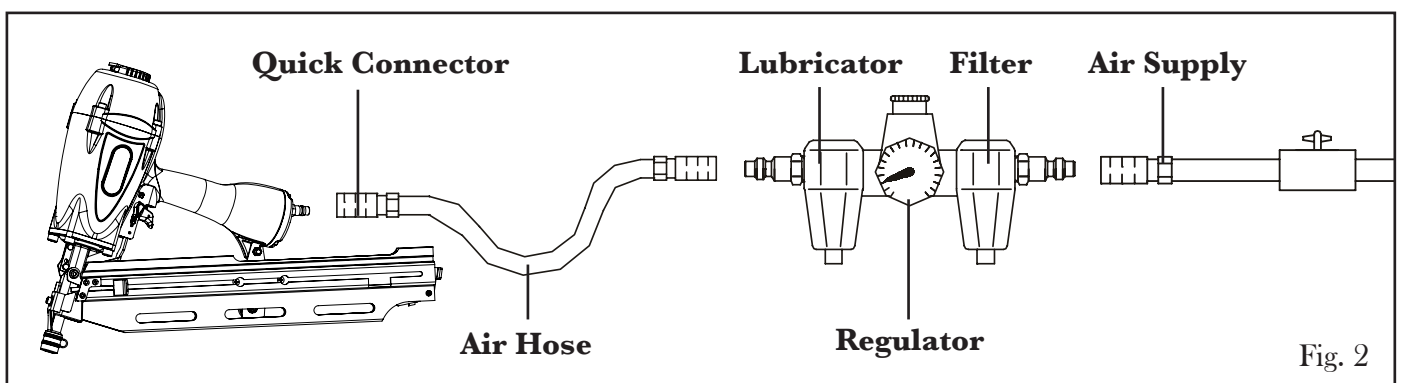

Fig. 2
### PREPARING THE AIR SUPPLY (Fig. 2)
All air supply components including hoses, connectors, filters, regulators, etc. must have a working pressure rating of at least 180 PSI (150% above the maximum operating pressure of the tool) . Refer to the diagram below (Fig. 2) for the recommended accessories and connection order.
1. Turn on the compressor on and set the regulator (Fig. 2 - Regulator) to the proper pressure within 70 to 120 PSI. The pressure can be adjusted later within this range, depending on firing depth, the length of nails and the hardness of the workpiece.